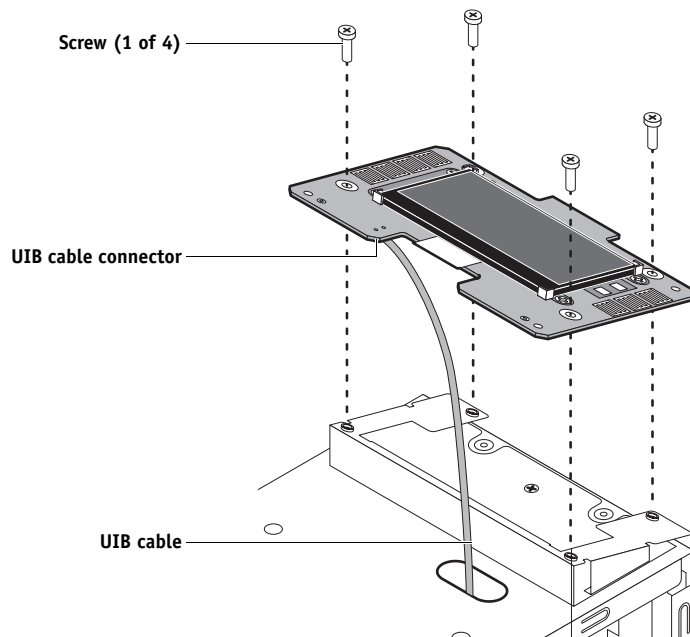

FIGURE 12: Removing/replacing the User Interface Board
- 6 Attach the UIB cable to the connector on the top of the UIB (see Figure 12 on page 32).